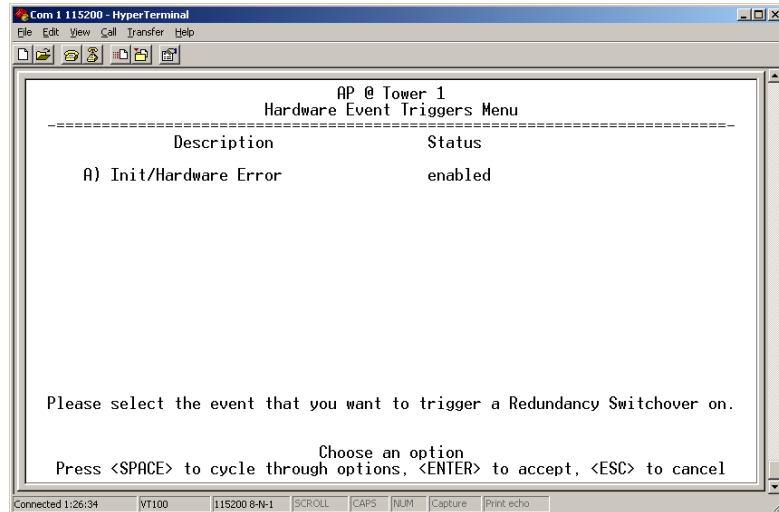

Figure 3-36. Hardware Event Triggers
- **Hardware Event Triggers**—This selection brings up a submenu (Figure 3-36) where you can set/view the trigger status for initialization/hardware errors.